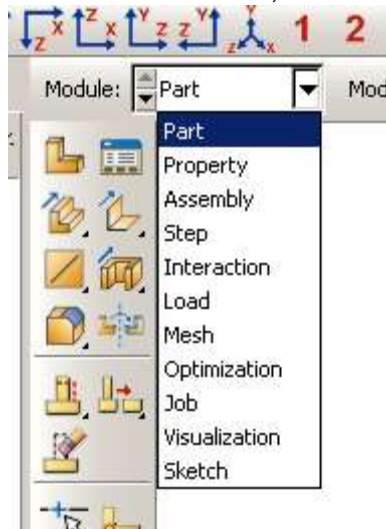

Figure W1–2. Module list
1. Abaqus/CAE automatically loads the Part module. Any other module can be accessed from the **Module** list located in the context bar, as shown in Figure W1–2.